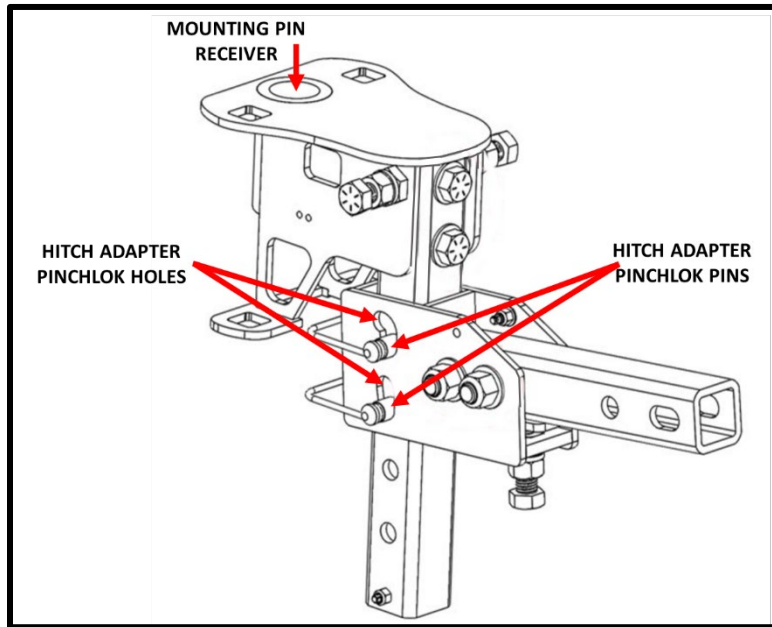

Figure 3. Hitch Adapter Lubrication Points
1. Use a wooden cotton swap to apply NLGI Grade 2 Grease to the following locations identified in Figure 3.